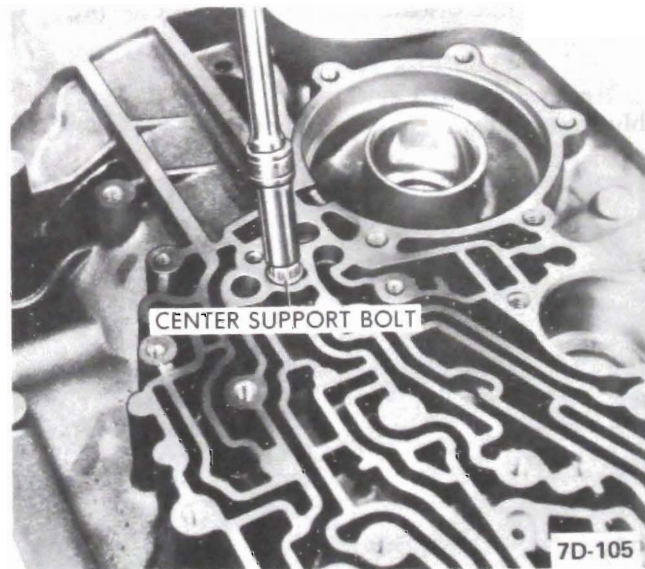

Figure 7D-53
16. Remove entire gear unit assembly by lifting with J-21795 and J-7004 Slide Hammer. See Figure 7D-57.